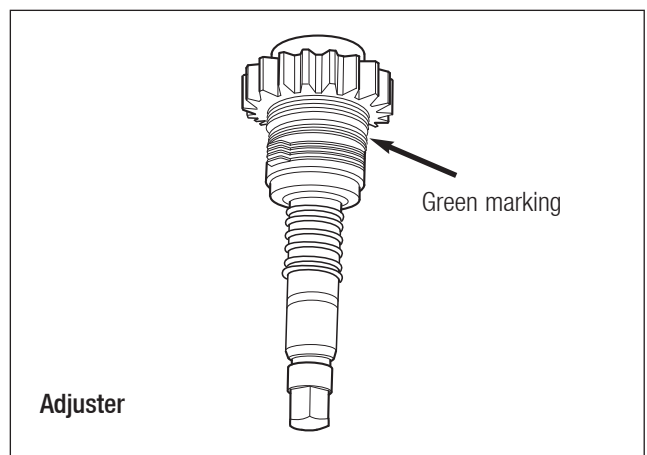

Fig. 10.14
- LH adjuster assemblies are identified by a green marking on the wrap spring (Fig 10.14).